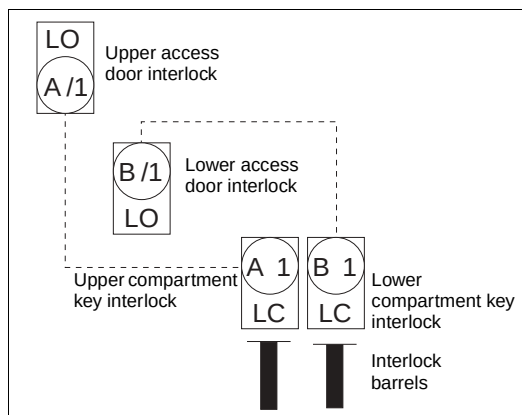

Figure 22: Interlock Status (Step 1)
1. To perform inspection, both access doors need to be open. If necessary, lock open both of the access door interlocks (see Figure 22) and open doors.